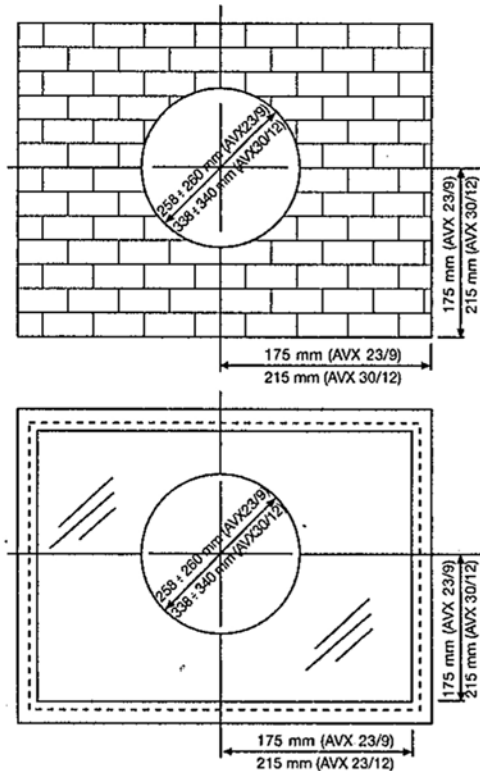

FIG 1
1. Cut a hole as indicated in **FIG 1**.